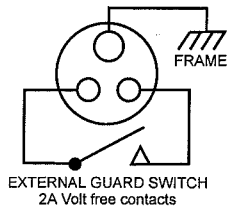

FIG.4 Guard / Safety Switch
5. **Guard / Safety Switch** – used to connect guard (lid) switch from Safety Enclosure or other external test initiation system. Switch contacts must be normally open and volt-free, closing to start. Contacts to be rated for 2A / 15Vd.c. See FIG.4 for connection diagram.